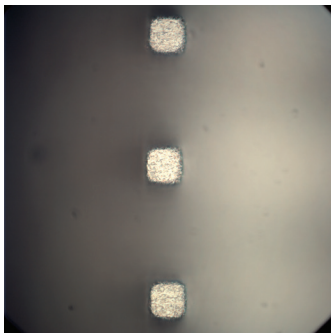

Figure 13. New probe tips for probing oxidizing metals.
- The probe tips for oxidizing metals (aluminum, copper and solder) should look similar to those shown in Figure 13 and be free of debris